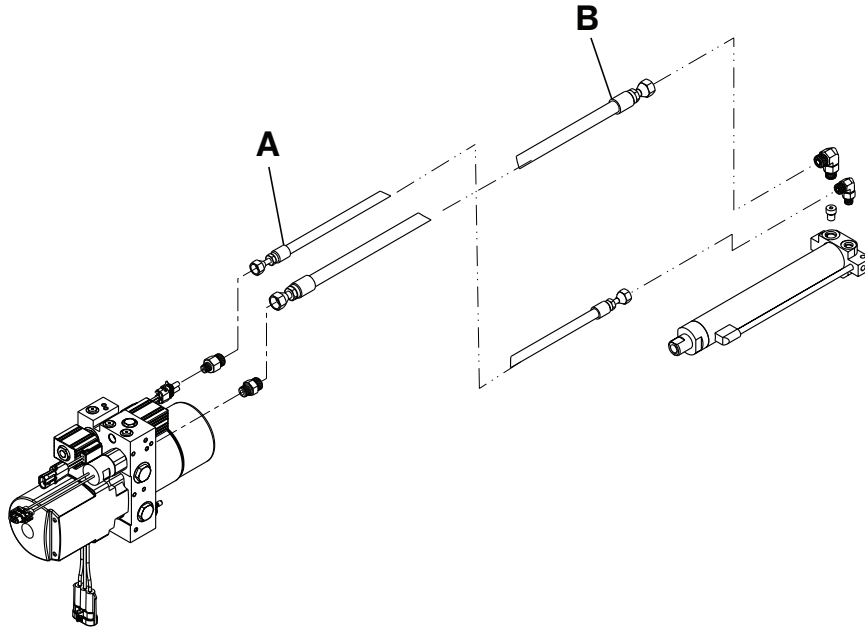

Figure 18 – Hydraulic hose replacement
3. Using a 11/16" combination wrench and a 13/16" combination wrench, remove the hydraulic hose (A or B) (Figure 18). Discard the hose.